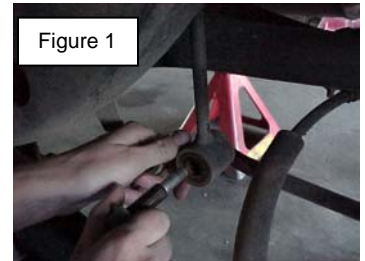

Figure 1
2. Remove the front tires and wheels and disconnect the lower sway bar end links from the differential. See figure 1.
3. Disconnect the sway bar end links from the differential. See figure 1.